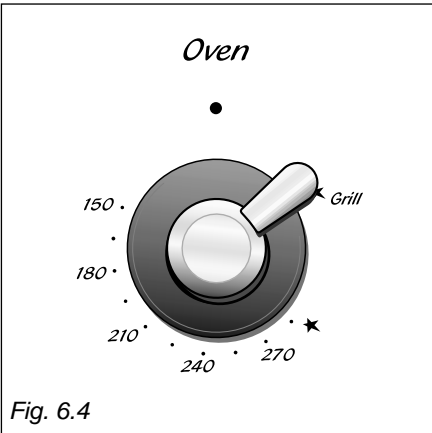

Fig. 6.4
2) Lightly press and turn the thermostat knob clockwise to the  **Grill** position (fig. 6.4).